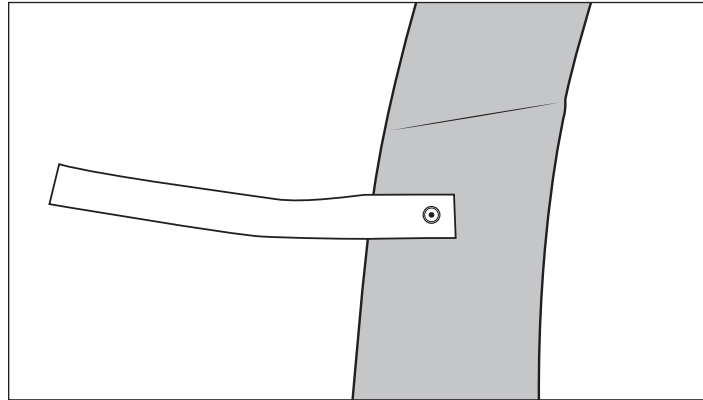

Figure 20
- A. Place drill templates on mounting surface of flares over hole locations (fig. 20).